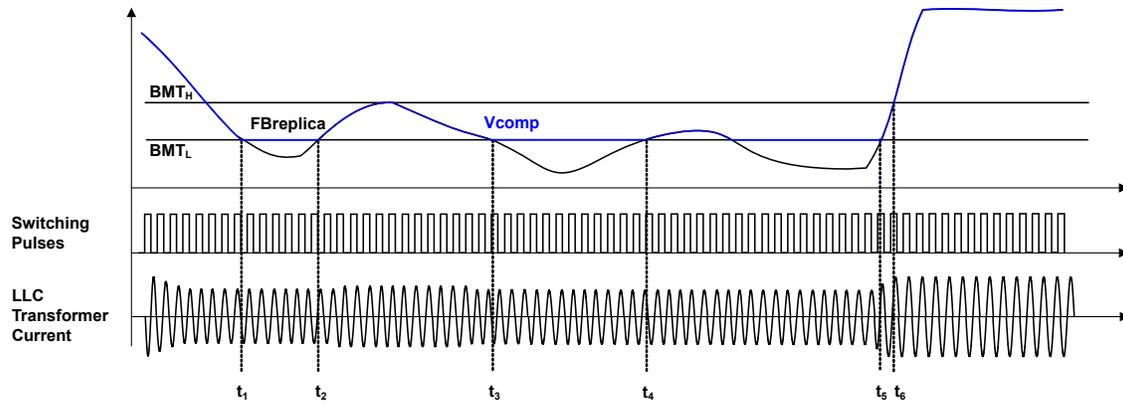

Figure 2-29. Switching Pattern with Burst Mode Disabled
- Figure 2-29 shows that, when the burst mode is disabled (using option 7 given in Table 2-1), switching pulses are not turned off even when the $F_{breplca}$ becomes lower than BMT_L .